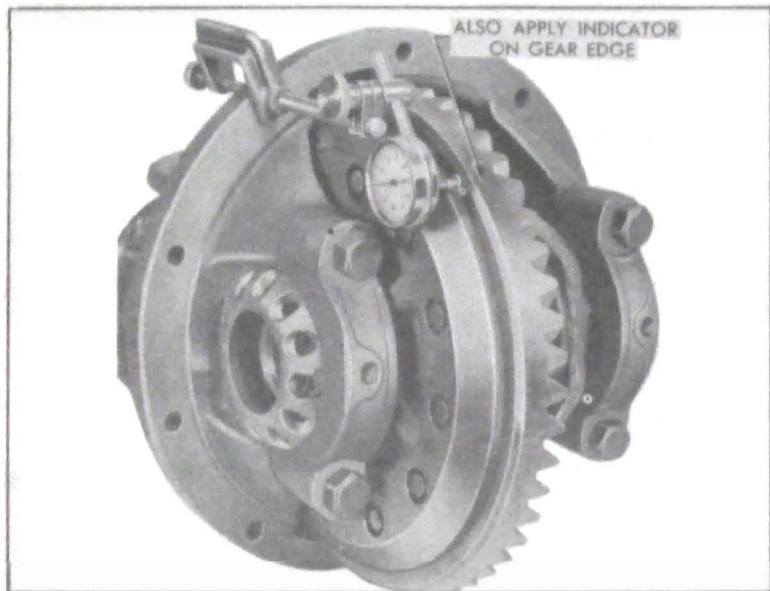

Figure 6-12—Checking Run-out of Ring Gear
7. Mount ring gear and case in differential carrier with a dial indicator set to check run-out of gear as shown in figure 6-12. If run-out exceeds .003" at back or edge of gear check for burrs, uneven bolting conditions, or distorted case flange and make necessary correction.